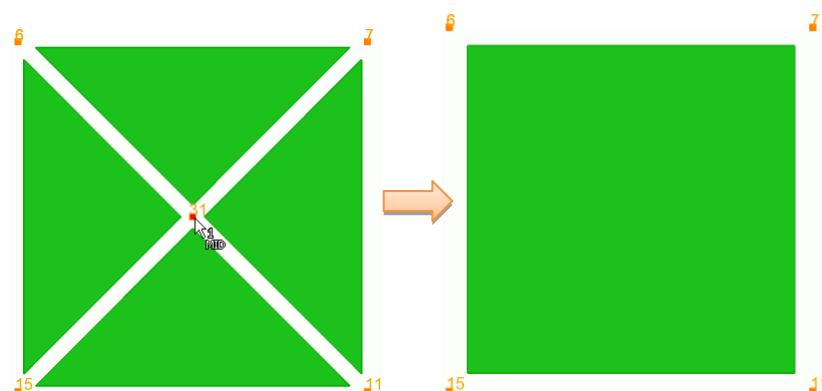

Figure 7-16 RemoveNode(31) merges 4 triangles into a quad.
- 1) When there are exactly 4 triangle elements connected to N and all can be merged to a quad as in Figure 7-16.